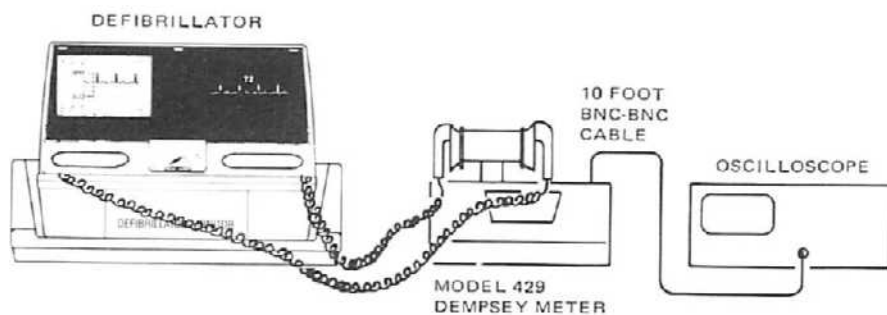

Figure 3-24. Energy Accuracy Test Setup.
1. Connect the equipment as shown in Figure 3-24.